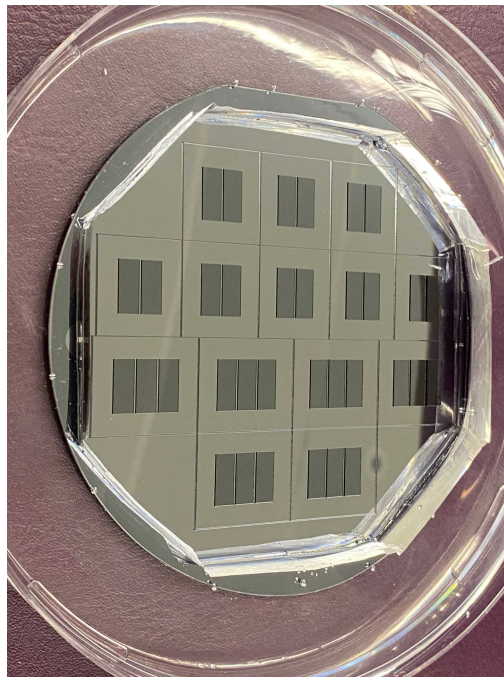

Figure 1: Custom master mould.
- 1 A custom master mould containing both duo- and trio-chambers (**Figure 1**) is manufactured by and obtained from Microliquid (Spain).